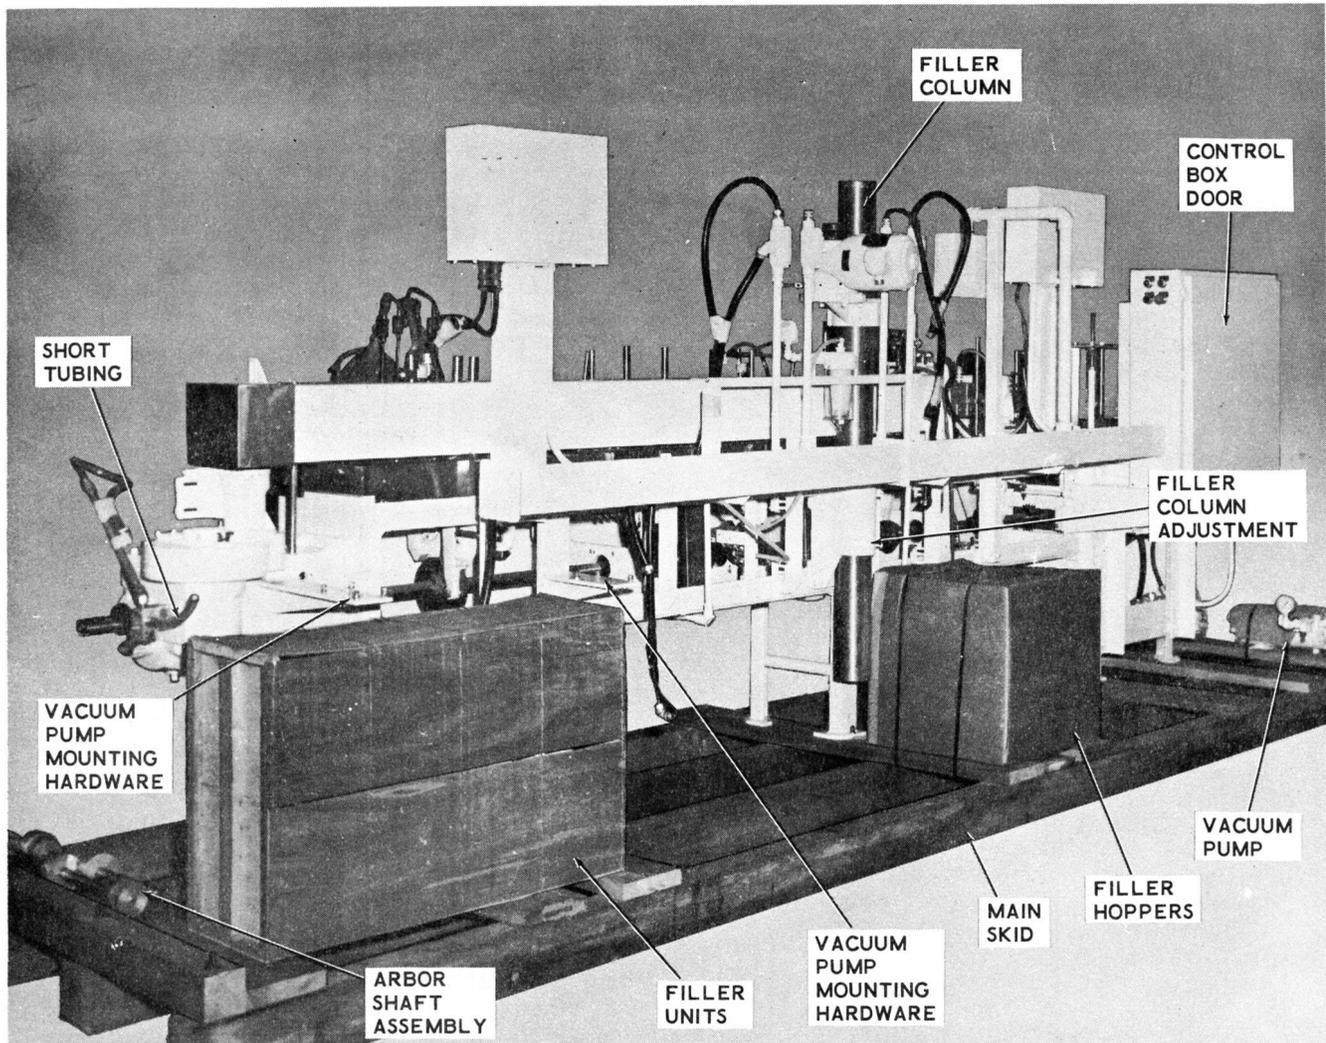

Figure 2-1. Skid Mounted Packager
- c. After the machine has been moved to the installation site, remove arbor shaft assemblies and vacuum pumps from main skid (Figure 2-1). Remove cardboard box and rectangular wooden box from main skid and remove filler and hopper parts from these boxes. Inspect all parts for damage.
- a. Hardware for mounting the vacuum pumps are shipped in the mounting brackets (Figure 2-1) at the rear of the machine. Remove the mounting hardware.
c. Check inlet and outlet tubing for dirt before connecting. Connect short clear tubing (Figure 2-1) to downward connection near gage. Make electrical connections.
a. Install filler head to the top of the filler column (Figure 2-1) and secure in position with hardware supplied with the filler head.